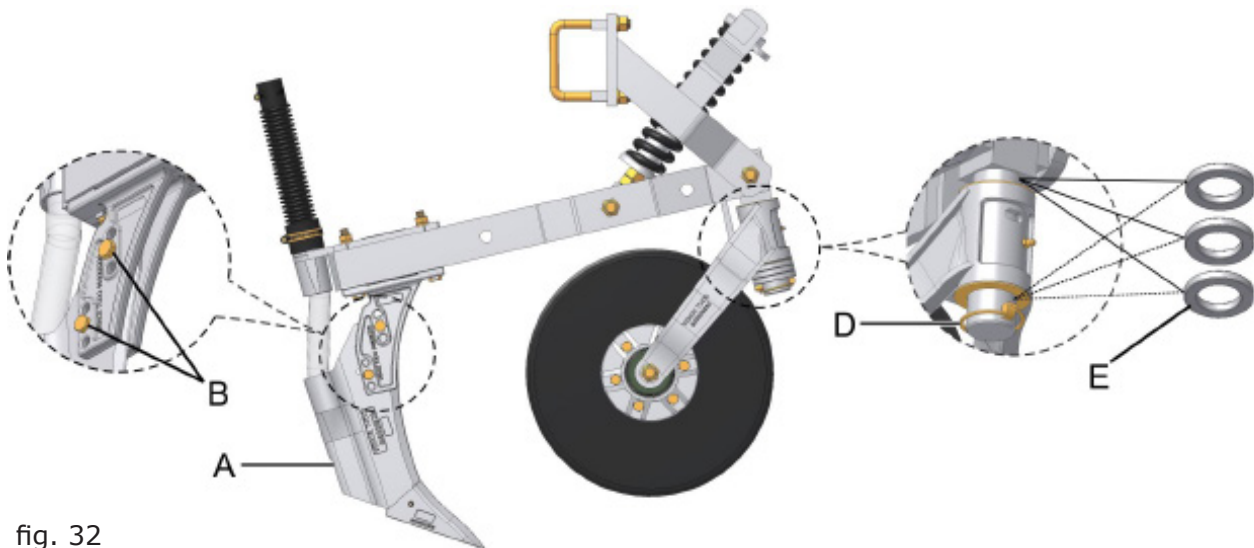

fig. 32
The position of the furrower can be adjusted in the vertical direction. To do so, it suffices to release the furrower blade (A) (fig. 32) and alter the depth of the furrow changing the position of the screws (B).